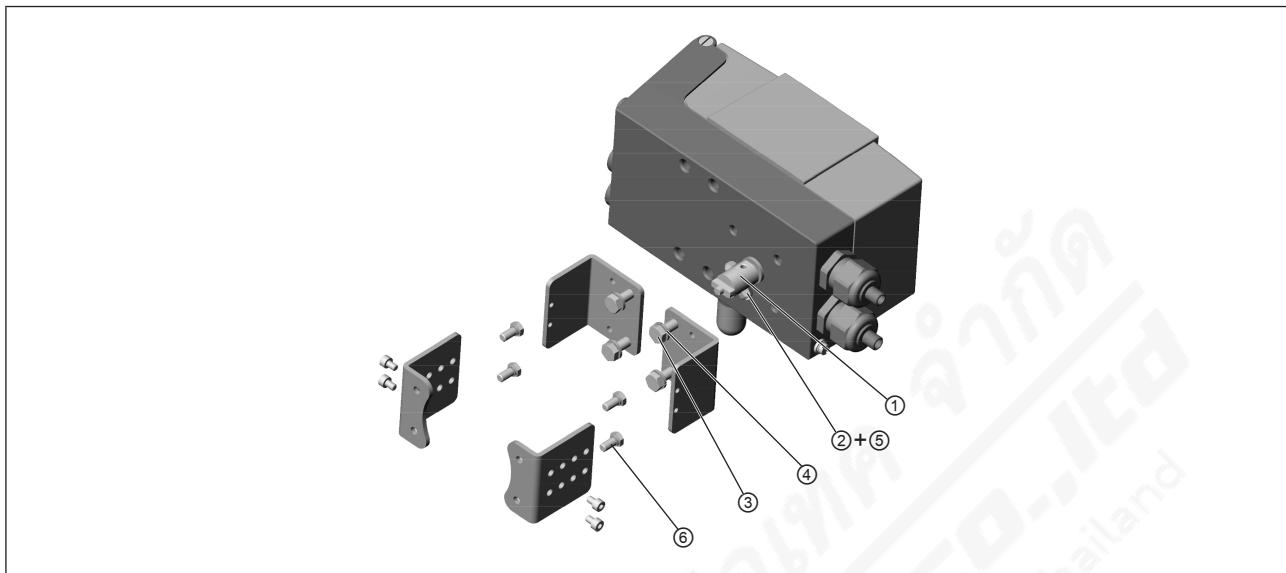

Figure 23: Attaching the assembly bridge
- Attach the assembly bridge to the SideControl using the 4 hexagon bolts ③ and the spring lock washers ④ (see "Figure 23").